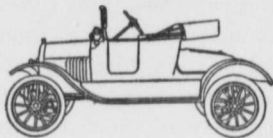

FIG. 1
- FIG. 1.—The Ford Runabout. The cheapest car made. Price \$345, 2 passenger, 4 cylinder, 20 horsepower.